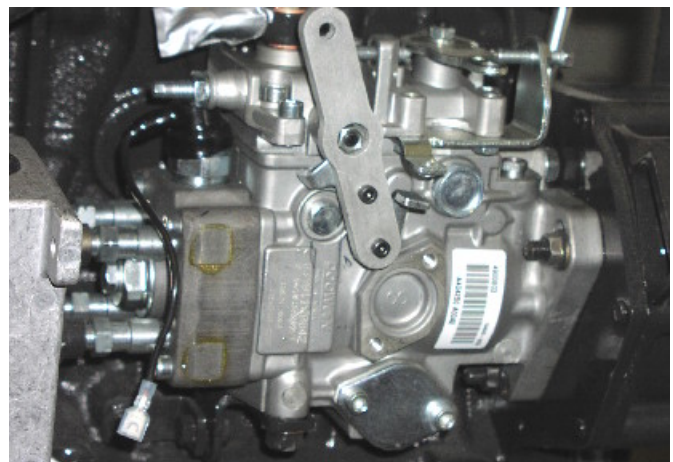

Figure 2 – Run/Stop Lever Adapter (5) Installed
4. Install the Run/Stop Lever Adapter (5) using the two supplied 6-32 Bolts and 6-32 KEP Nuts (Items 6 & 7) as shown in Figure 2. Use Angled Needle-nose pliers to hold the KEP Nut in place. Once the Run/Stop Lever Adapter is installed and seated flat on the Run/Stop Lever, tighten the 6-32 bolts to 20in-lb.